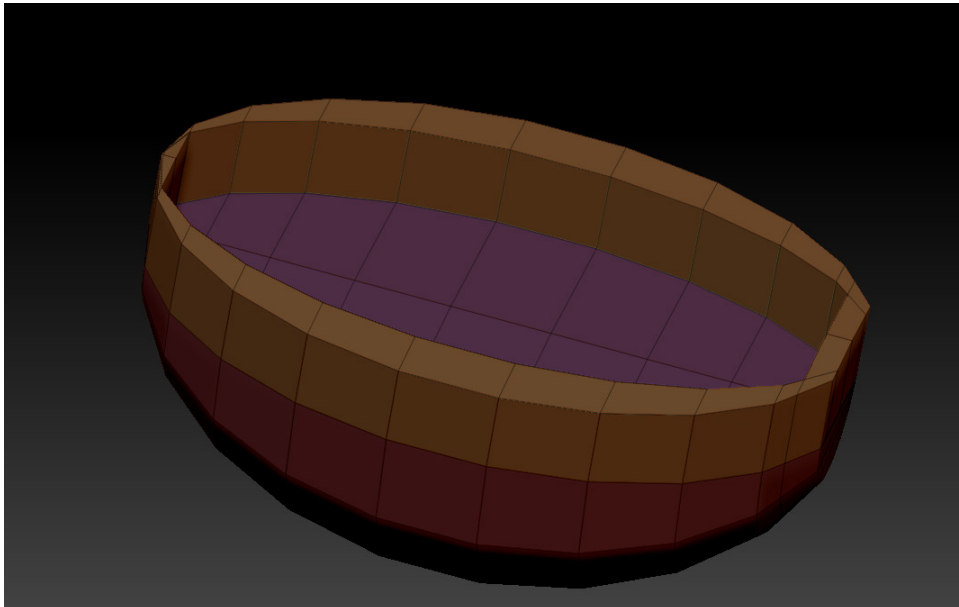

Figure 3-116 The extruded polygon
7. Hold the ALT key, select the corners of the polygon of the boat, and move the corners upward, as shown in Figure 3-116.